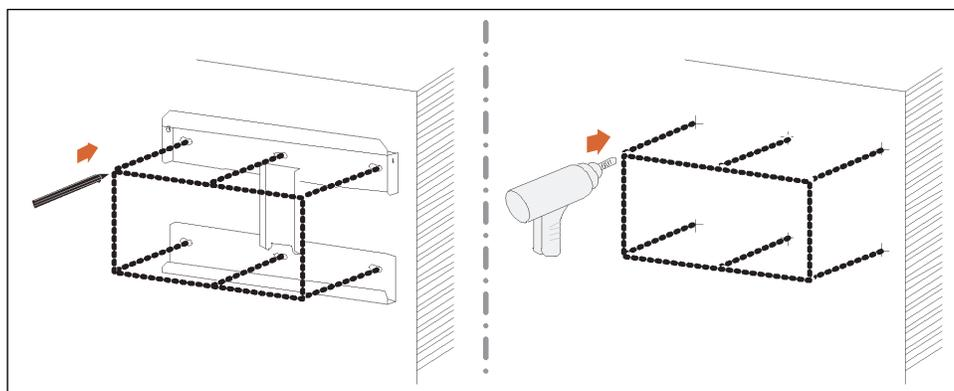

Figure 2-10 Mark and Pre-drill Wall
4. Use the backplate to mark the location of the holes on the wall. See Figure 2-10, “Mark and Pre-drill Wall” on page 2–13.
5. Pre-drill the mounting surface, if necessary. See Figure 2-10, “Mark and Pre-drill Wall” on page 2–13.